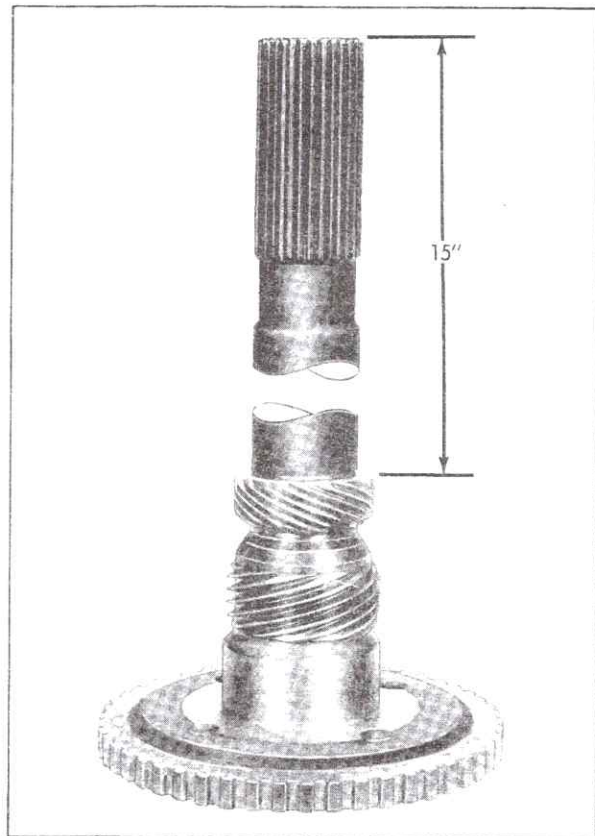

Fig. 7-79 Speedometer Drive Gear Installed
4. Drive gear onto shaft until distance from rear face of gear to end of output shaft is 15 inches, Fig. 7-79.